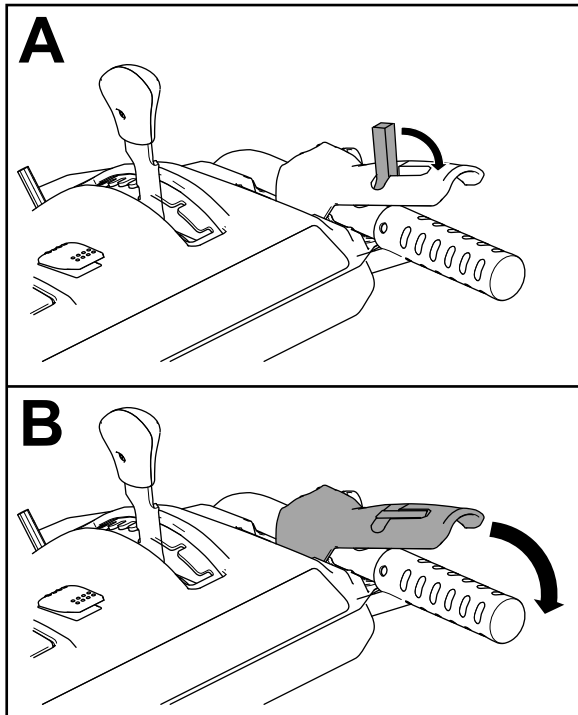

Figure 30
2. Engage the auger/impeller lever and hold it in place (Figure 30).